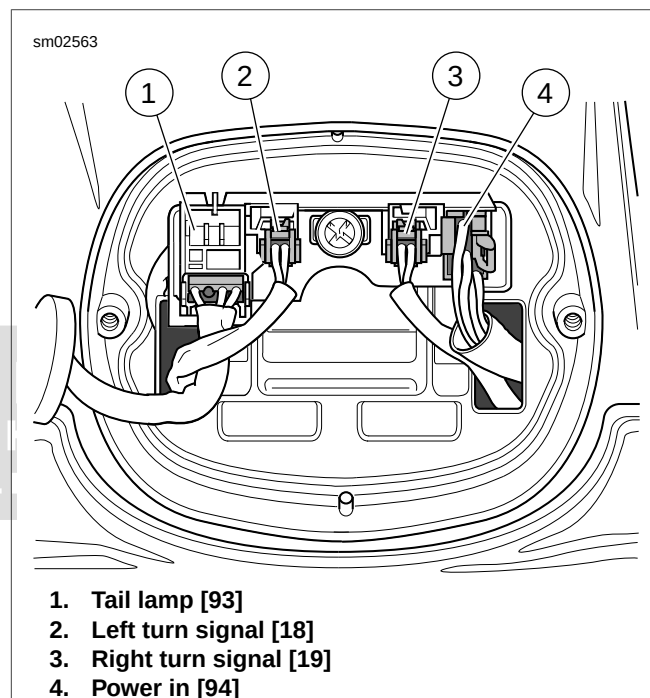

Figure 7-30. Wire Location at Connectors
8. See Figure 7-30. Install connectors to pin housing.